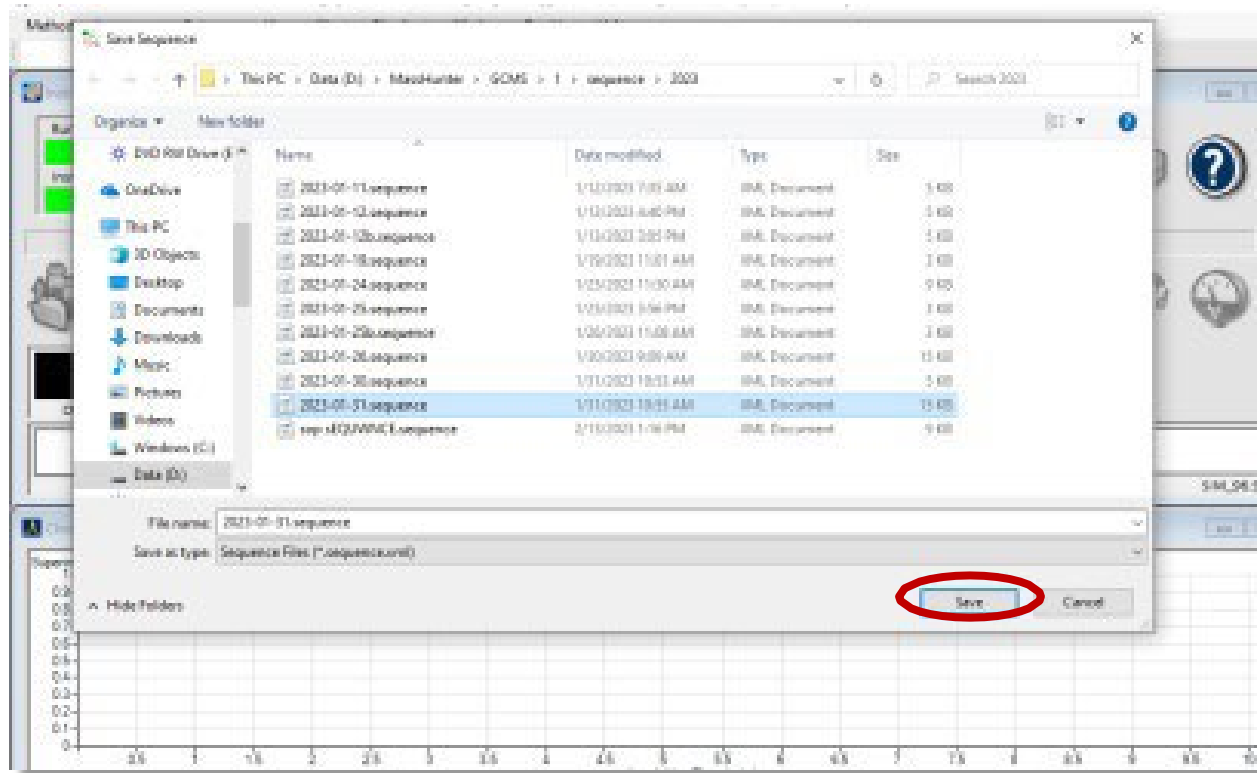

Figure 29. Naming the sequence table in YYYY-MM-DD.sequence format.
17. In the **Save Sequence** dialog box, save the sequence in the format YYYY-MM-DD.sequence, where YYYY-MM-DD reflects the date the sequence was initiated, and click **Save** (Figure 29).